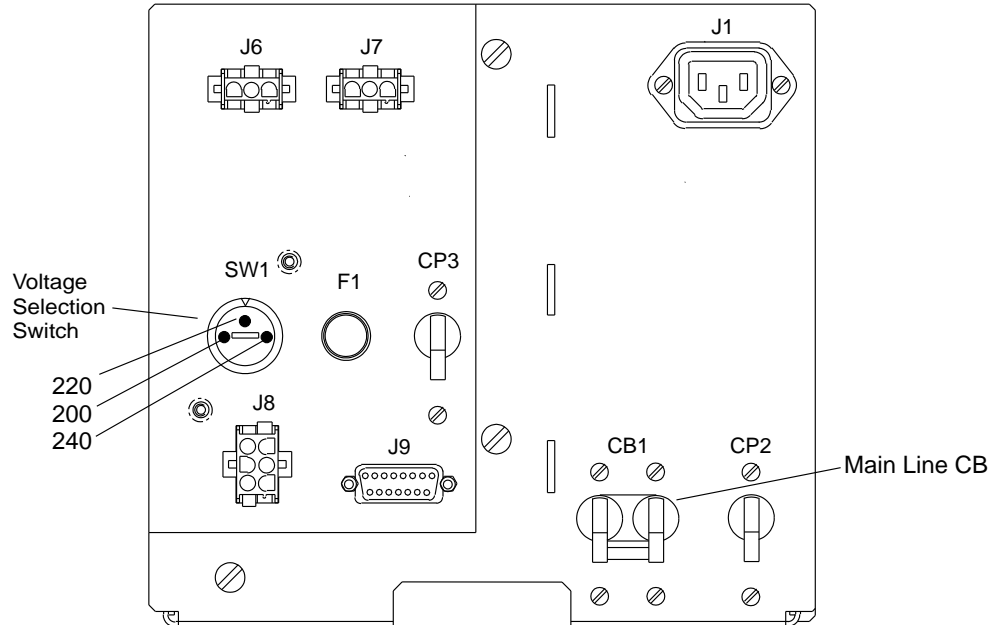

Figure 2-1. Primary Power Box (Front View)
Step 4. ____ On the front side of the primary power box, set the voltage selection switch SW1 (see Figure 2-1 on page 2-2) according to the following table:
Step 1. ____ Ensure that the customer's branch circuit breaker which feeds the 3745 receptacle is in the **OFF position**, and that CB1 is switched to **OFF** in front of the 3745 primary power box (see Figure 2-1 for location).
- Step 1. ____ Ensure that CP2 and CP3 are set to the **ON** position (refer to Figure 2-1 on page 2-2).